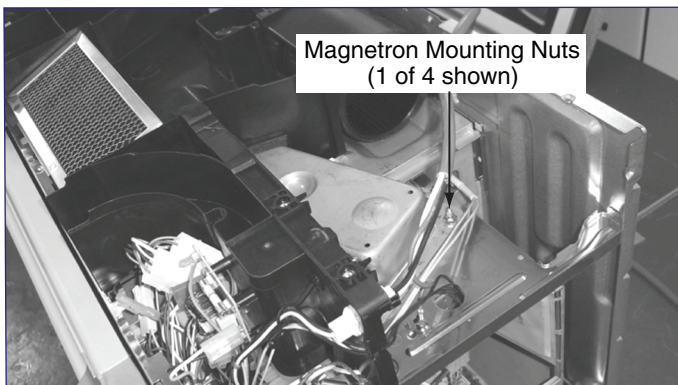

Figure 4-6. Magnetron Removal
5. Remove nuts (4) securing magnetron to wave guide. (See Figure 4-6)